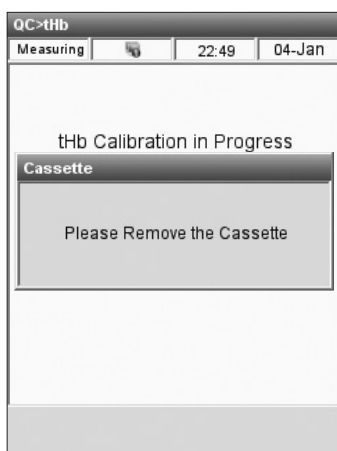

Fig. 2-22 Remove Calibrator
- After the calibration is complete, you will be prompted to open the sample chamber cover and remove the cassette (Fig. 2-22).